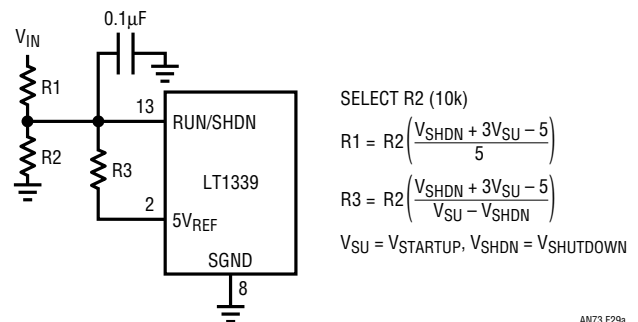

Figure 29a RUN/SHDN Pin
This pin implements the user-programmed undervoltage (UV) lockout. By placing a resistor divider from  $V_{IN}$  at this pin to ground, any UV lockout voltage from 1.25V through hundreds of volts can be programmed. Internal hysteresis of this pin is internally set at 15mV (1.2% of the 1.25V switching point). Additional hysteresis can be implemented by adding a resistor from this pin to the  $5V_{REF}$  pin (see Figure 29a).